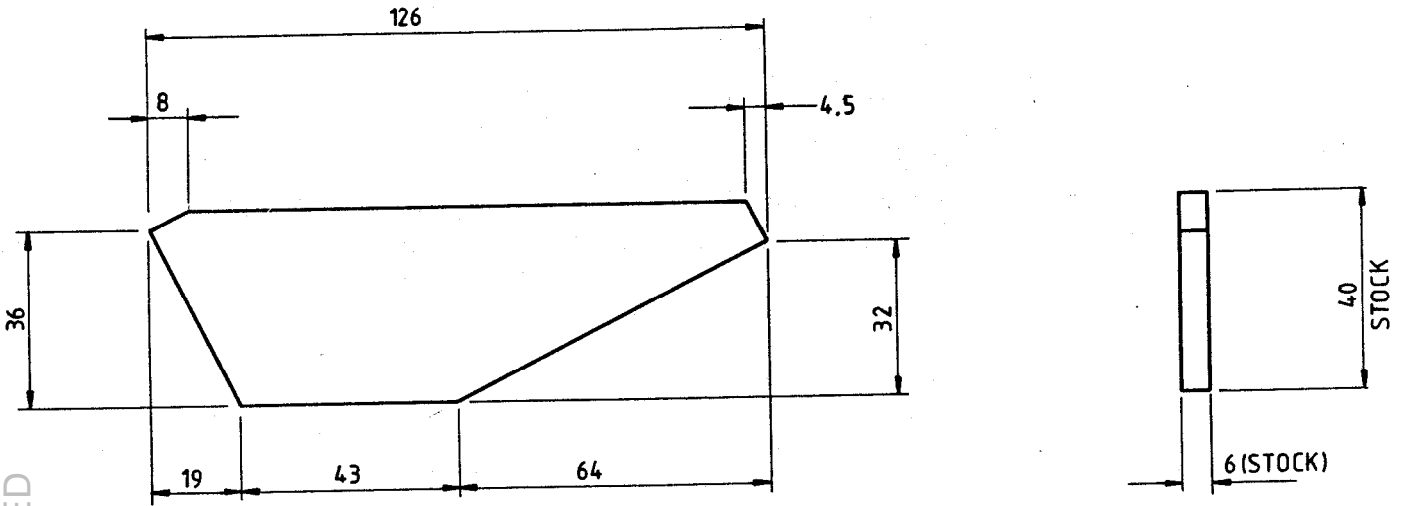

FIG 2 - STRENGTHENING GUSSET DETAILS
- c. Manufacture a gusset as shown in Fig 2 using item 2, Table 1.